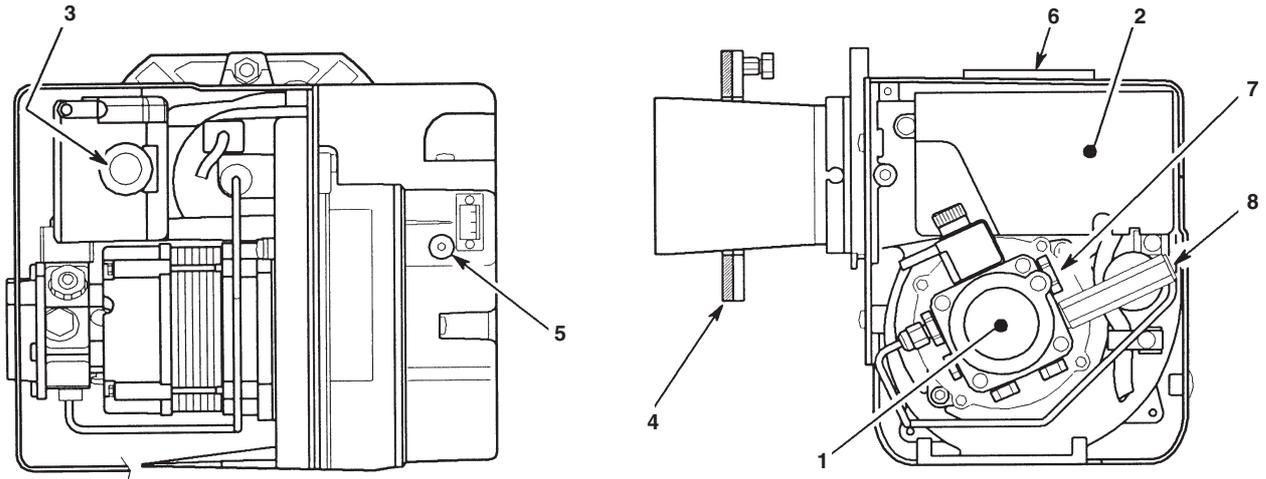

Fig. 24 - RDB burner components
- 4 Connect a combined vent manifold and pressure gauge to the pressure gauge connection port on the oil pump. See Fig. 24. Open the vent screw on your vent manifold to vent the supply while the pump is running.
- 8 With the burner alight, check the fuel pressure. Refer to the Technical Information, Section 4.3, 4.4 or 4.6. Adjust the pressure if necessary - see Fig. 24.
- 13 After allowing the burner to run for 20 minutes - Check the smoke number, if satisfactory check the CO2 level. Set the CO2 to the value given in Section 4.3, 4.4 or 4.6. for the boiler and fuel used. Adjust the burner air regulator, see Fig. 24, turning the screw anti-clockwise closes the damper and increases CO2 level, turning the screw clockwise opens the damper and reduces CO2 level.